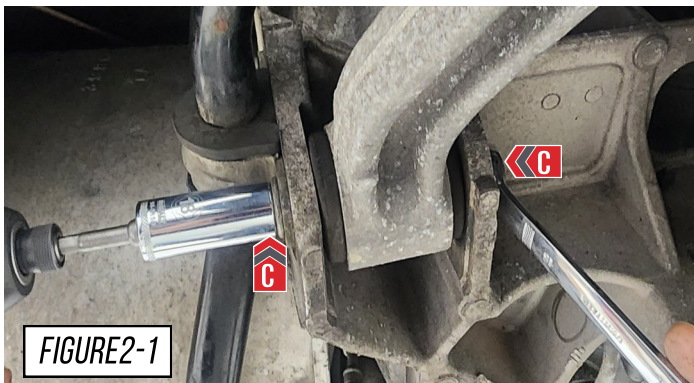

FIGURE2-1
Remove the hardware shown at (A) that holds the spring hangers to the bracket, shown in **Figure 2-1**.